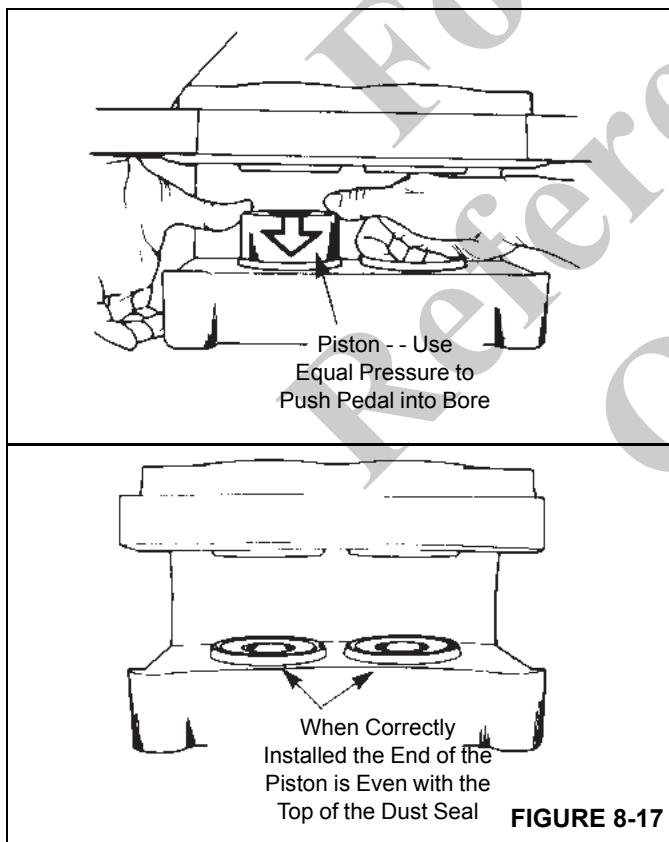

FIGURE 8-17
4. Install the pistons in the housing. Push the pistons in from the lining side of the housing. Ensure the pistons are straight in the bores. Push each piston into the bore until the top of the piston is even with the top of the dust seal (Figure 8-17).